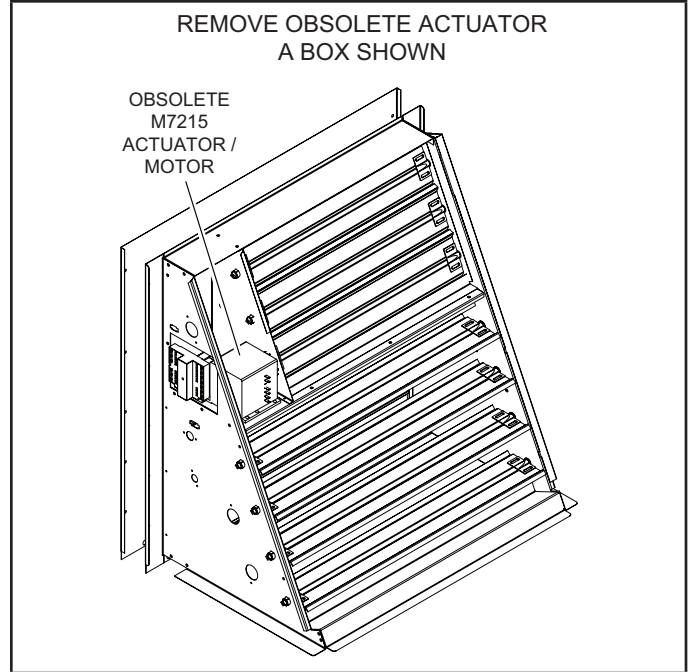

FIGURE 1
- 2 - Disconnect wiring and remove obsolete actuator. See figure 1.